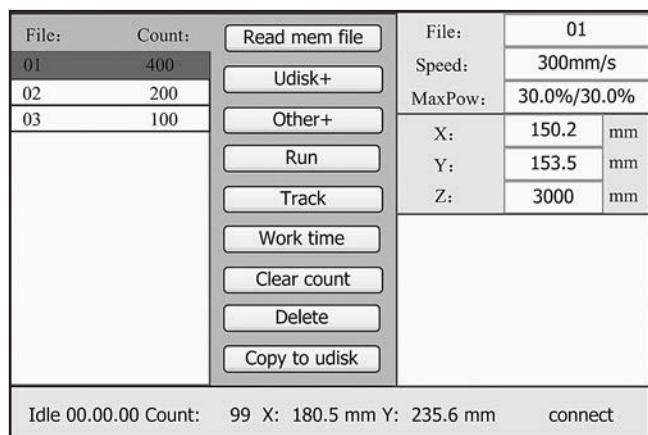

Figure 42. Example of file management screen.
- Press File button on control panel to display file management screen (see **Figure 42**).